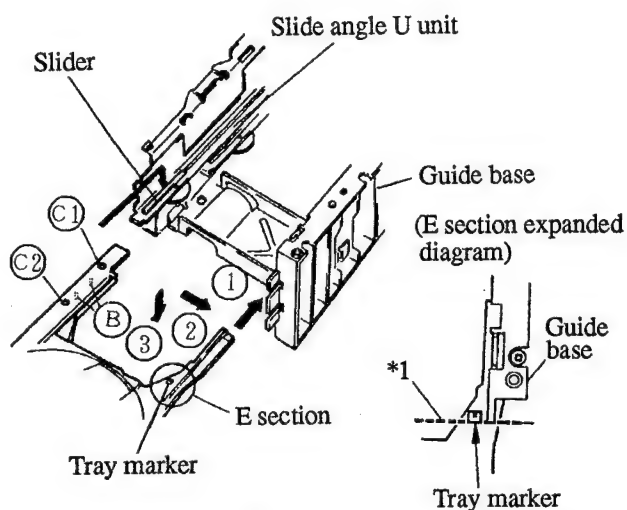

Figure 11
2. Put the slider in the very front as shown in Figure 11.